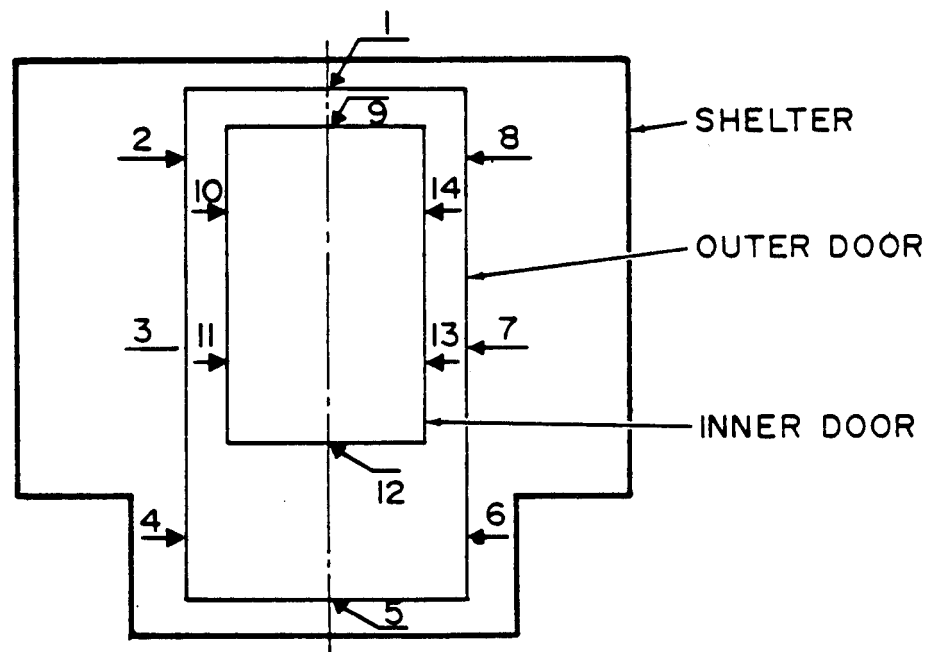
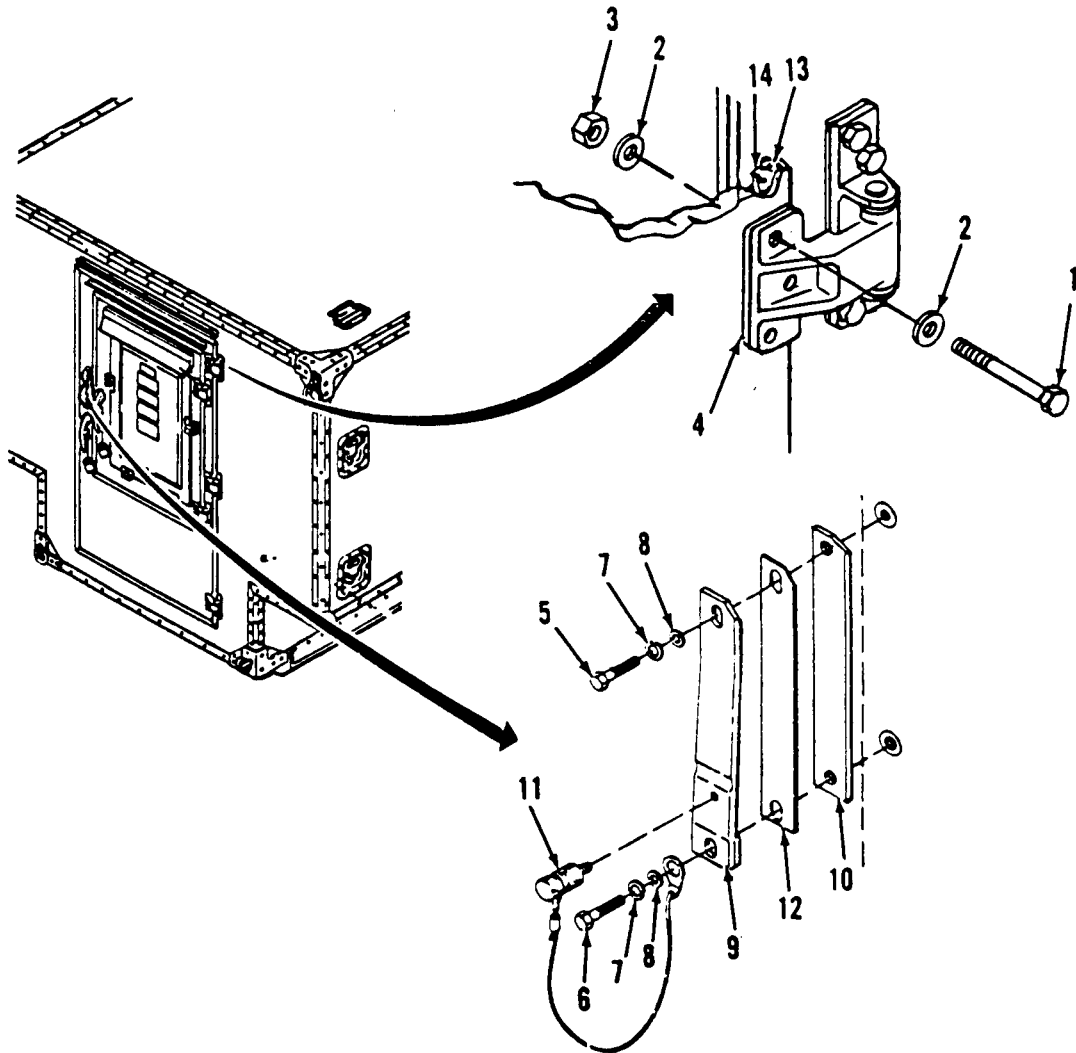

Figure 3-19. Typical Locations for Door Gasket Testing.
Figure 3-20. Weather Gasket and Seal Pressure Adjustment.
*a.* Inspect. (Figure 3-20)
- (1) Inspect the door assembly (2) for external damage.
- (2) Inspect the silicone weather gasket (15) for tightness.
- (3) Inspect the RFI/EMI gasket for wear and secure mounting.
*b.* Test. (Figure 3-19) Test of the door assembly consists of testing for proper seal pressure on the silicone weather gasket. The procedure listed below shall be performed at the center top and bottom of the door, and three places along each side of the door, as shown in Figure 3-19.
- (1) Place a single piece of paper (0.005 inches maximum thickness by 2-1/2 inches wide) between the silicone weather gasket and its bearing surface.
- (2) Close and lock the door.
- (3) Withdraw the paper. Resistance to the withdrawal of the paper indicates proper seal pressure. If there is no resistance, perform the adjustment procedure contained in the following paragraphs.
- (4) If there is resistance to the withdrawal at all of the test points, sufficient seal pressure exists on the silicone weather gasket and adjustments are not necessary.
*c* . Adjust. (Figure 3-20) Adjustment to increase the seal pressure on the silicone weather gasket can be made on the hinged side of the door and on the roller latch side of the door, as described in the following paragraphs:
- (1) Weather Gasket Pressure Adjustment. To increase the weather gasket pressure on the hinged side of the door, proceed as follows
- (a) Open the door and remove and retain three bolts (1), six flat washers (2), and three self-locking nuts (3) attaching the hinge to the door.
- (c) Insert shim (4), approximately 0.032 inches thick and matching the hinge body in size, between the hinge leaf and the door.
- (d) Secure the hinge leaf to the door using three bolts (1), six flat washers (2), and three self-locking nuts (3).
- (f) After completion of adjustment procedure, apply a continuous bead of sealer around shim (4) and hinge leaf, and around head of bolts (1).
- (2) Seal Pressure Adjustment. To increase the seal pressure on the roller latch side of the door, proceed as follows
- (a) Open the door and remove and retain the hex head screws (5 and 6), flat washers (7), and lock washers (8) from the top and bottom hole attaching the keeper (9) to the wall, and remove keeper and shim (10). Remove detent pin (11) from center keeper.
d. **Replace.** (Figure 3-20) To replace the RFI/EMI gasket (13), remove gasket from track and clean track of any dirt. Place new gasket over track and snap in place. To replace the silicone weather gasket (14), proceed as follows
- (1) Remove gasket (14) and clean track from adhesive residue.
- (2) Apply sealer in track groove all around door and snap new gasket in place in track on door.